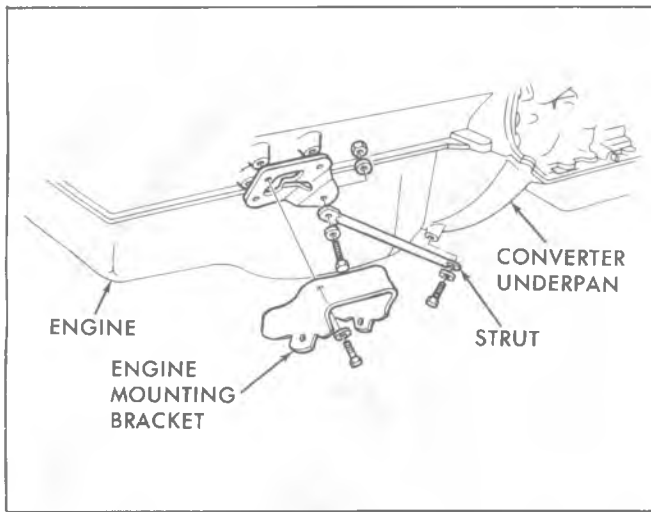

Fig. 7A-22-Transmission Support Strut Rod
3. Remove cover "O" ring seal, spring and 1-2 accumulator, as seen in Figure 7A-21.